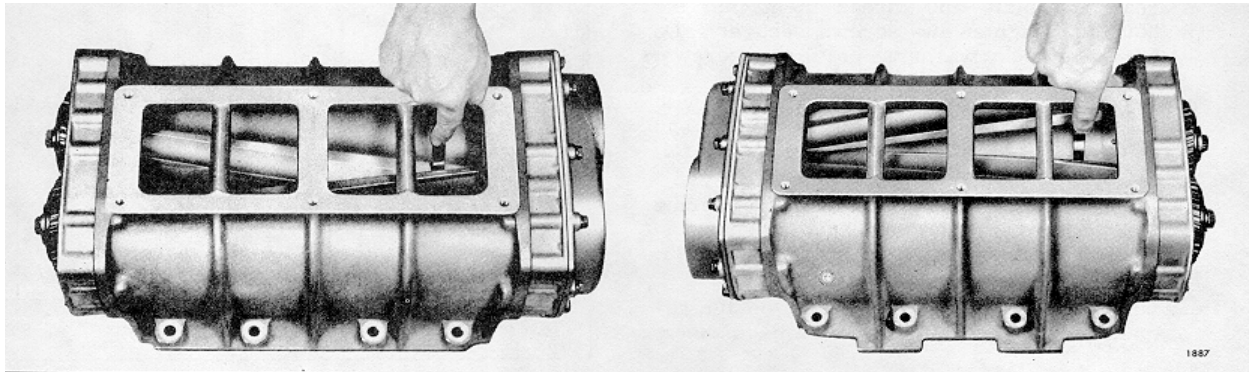

Fig. 25. Measuring "CC" and "C" Clearances Between Blower Rotor Lobes
The clearance between the rotor lobes should be checked with 1/2" feeler gages in the manner shown in Fig. 25. When measuring clearances of more than .005", laminated feeler gages that are made up of .002", .003" or .005" feeler stock are more practical and suitable than a single feeler gage. Clearances should be measured from both the inlet and outlet sides of the blower.
1. 71 Blower - Time the rotors to have .002" to .006" clearance between the TRAILING edge of the UPPER rotor and LEADING edge of the LOWER rotor ("cc" clearance) measured from both the inlet and outlet sides as shown in Figs. 25 and 26. If possible, keep this clearance to the minimum (.002"). Then check the clearance between the LEADING edge of the UPPER and the TRAILING edge of the LOWER rotors ("c" clearance) for the minimum clearance shown in Fig. 26. Rotor-to-rotor measurements should be taken 1" from the governor end, at the center, and 1" from the drive end.
Former Reduction Blowers--Time the rotors to have .002" to .006" clearance between the TRAILING edge of the LOWER rotor and the LEADING edge of the UPPPER rotor ("cc" clearance) measured from both the inlet and outlet sides as shown in Figs. 25 and 27. If possible keep this clearance to the minimum